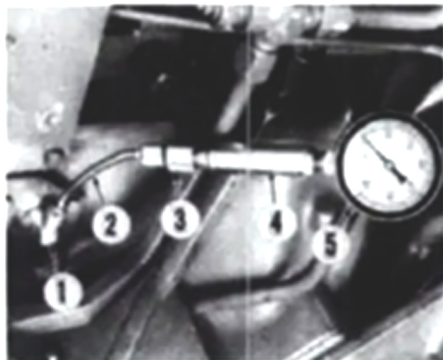

Fig. 103—Test gage installed for checking servo pressure.
91. SERVO PRESSURE. To check the servo pressure, install a 600 psi test gage in the test port above the brake pedals as shown in Fig. 103. Operate